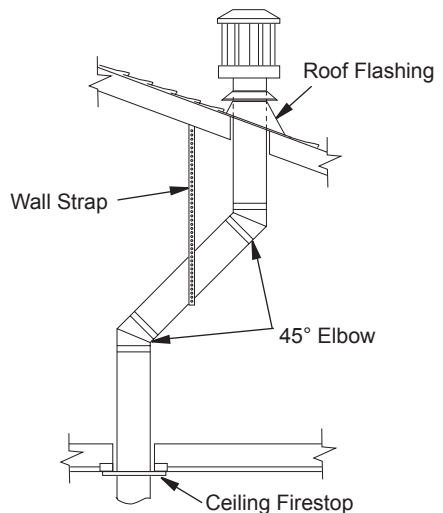

Figure 17 - Offset with Wall Strap and 45° Elbows
1. Determine route your vertical venting will take. If ceiling joists, roof rafters or other framing will obstruct venting system, consider an offset (see Figure 17) to avoid cutting load bearing members. **Note:** Pay special attention to these installation instructions for required clearances (air space) to combustibles when passing through ceilings, walls, roofs, enclosures, attic rafters, etc. Do not pack air spaces with insulation. Also note maximum vertical rise of venting system and any maximum horizontal offset limitations.
Note: If an offset is needed to avoid obstructions, you must support vent pipe every 3 feet. Use wall straps for this purpose (see Figure 17). Whenever possible, use 45° elbows instead of 90° elbows. The 45° elbow offers less restriction to the flow of flue gases.
5. Place flashing over pipe section(s) extending through roof. Secure base of flashing to roof and framing with roofing nails. Be sure roofing material overlaps top edge of flashing as shown in Figure 17. There must be a 1" clearance from vent pipe to combustible materials.